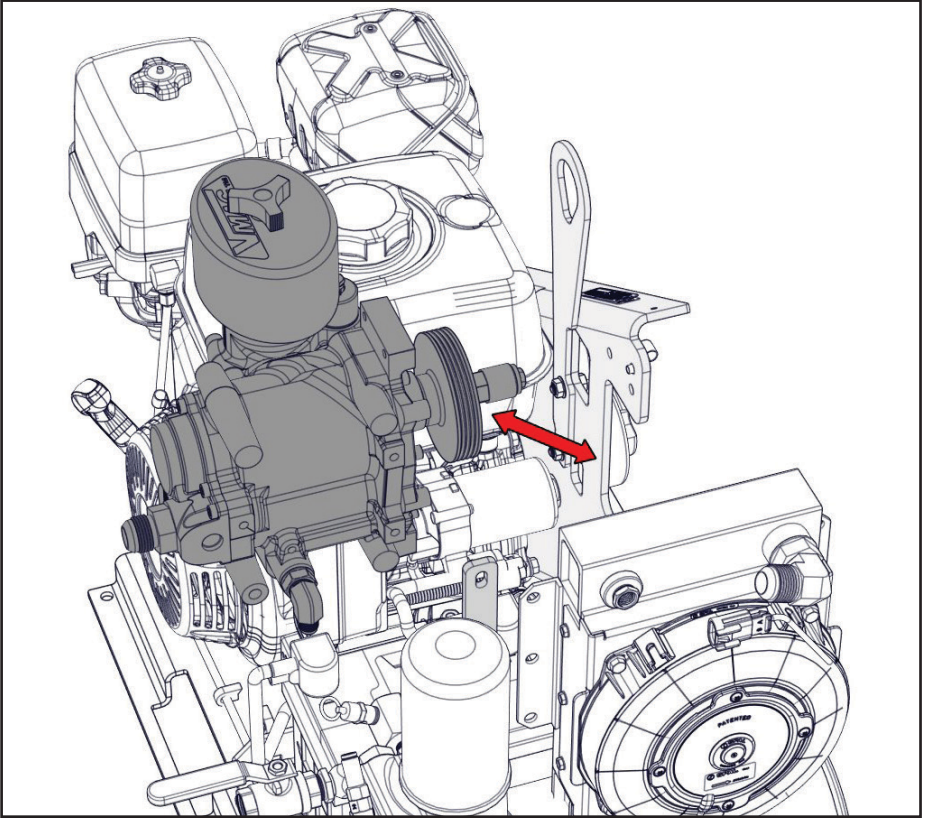

Figure 70 — Remove compressor
- ☐ Lift the compressor up and away from the belt guard to remove it (Figure 70).